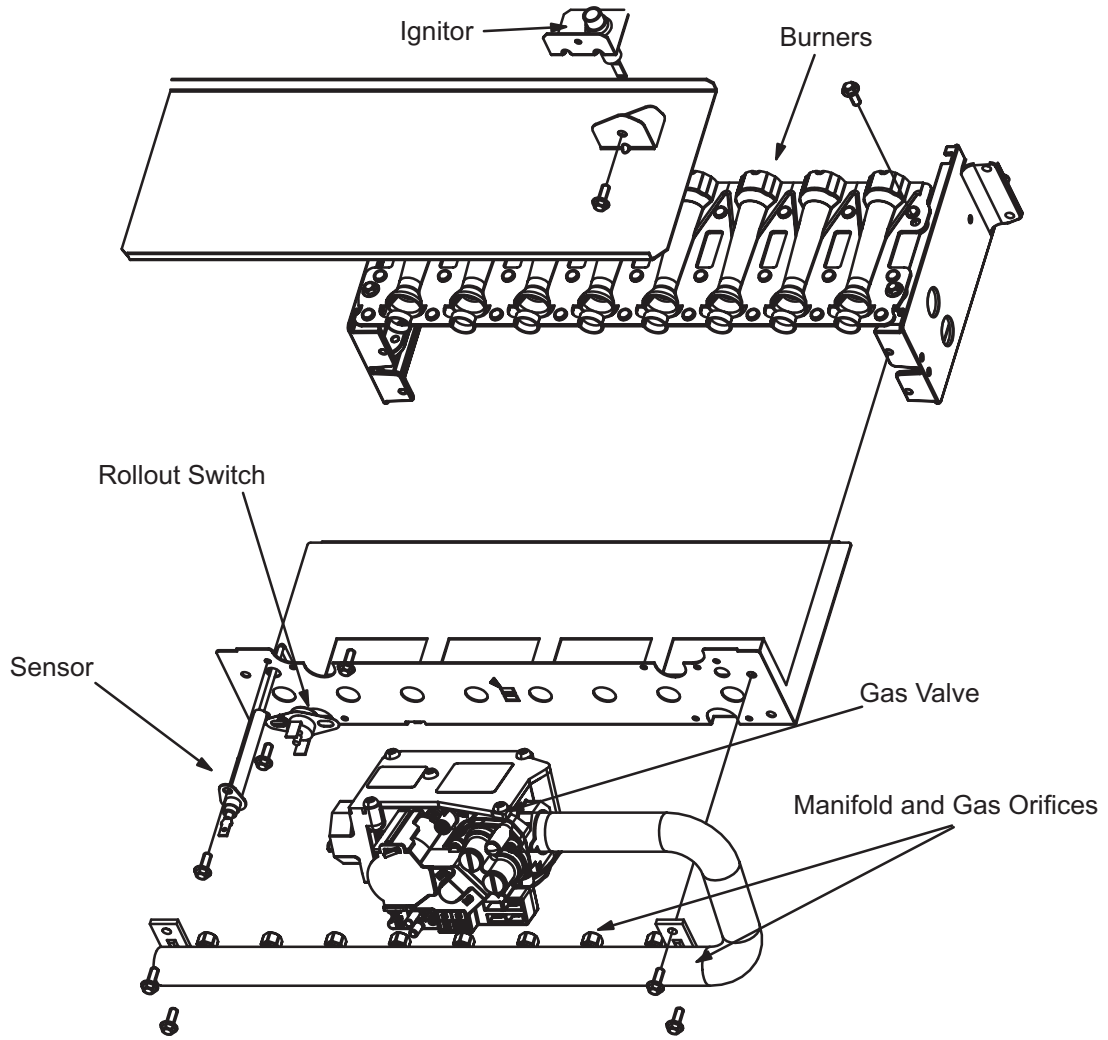

FIGURE 14
The SureLight® ignitor is made of durable silicon nitride. Ignitor longevity is enhanced by controlling voltage to the ignitor. The integrated control provides a regulated 120 volts to the ignitor for a consistent ignition and long ignitor life. Ohm value should be 39 to 70. See FIGURE 14 for ignitor location and FIGURE 16 for ignitor check out.
A flame sensor is located on the left side of the burner support. See FIGURE 14. The sensor protrudes into the flame envelope of the left-most burner. The sensor can be removed for service without removing any part of the burners. During operation, flame is sensed by current passed through the flame and sensing electrode. The SureLight control allows the gas valve to remain open as long as flame signal is sensed. A microamp DC meter is needed to check the flame signal on the integrated control. See FIGURE 15 and TABLE 9 for flame signal check and measurement.
The EL280UHE(X) is equipped with two rollout switches. See FIGURE 14 for location. The limits are a N.C. SPST manual-reset limit. When S47 senses rollout, the circuit breaks and the ignition control immediately stops ignition and closes the gas valve. Rollout can be caused by a blocked heat exchanger, flue or lack of combustion air. The switches are factory set to trip (open) at 210°F and cannot be adjusted. To manually reset a tripped switch, push the reset button located on the control.